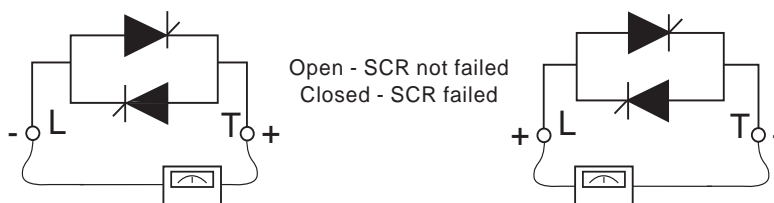

Figure 49: Checking Thyristors
2. Remove line power from controller. Using a continuity meter, check the thyristors in pairs. Figure 49 illustrates this process, phase by phase, between terminals 1L1-2T1, 3L2-4T2, 5L3-6T3. If continuity is indicated, at least one of the thyristors is short-circuited.